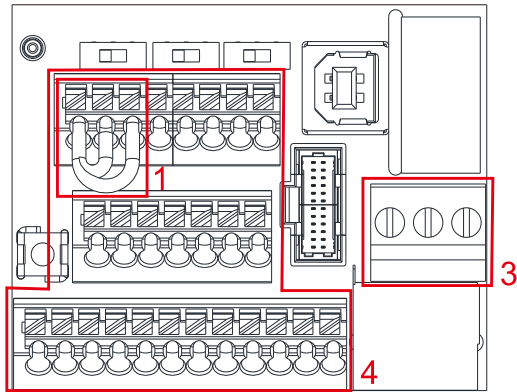

Figure 6-6 Control Terminal Distribution Diagram
8. The factory default is +24 V_{DC} / S1 / S2 short-circuited by jumper, as shown in Area 1 in Figure 6-6. Refer to Figure 4-2 in Chapter 4 WIRING for details.
10. The RELAY terminal uses the PCB terminal block (as shown in Area 3 in Figure 6-6):
11. The Control terminal uses the push-in spring terminal block (as shown in Area 4 in Figure 6-6):